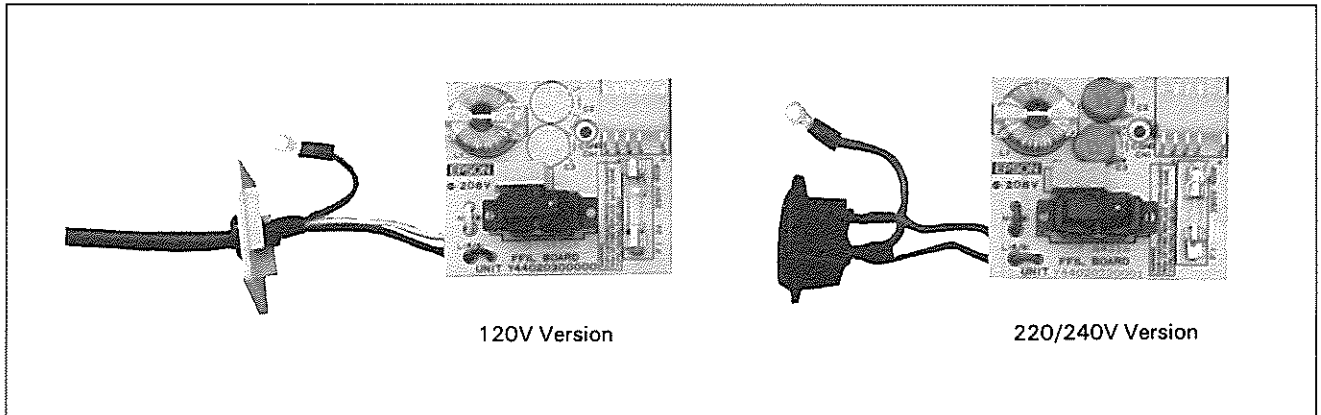

Fig. 2-15. Filter Circuit Components
2.6.1.1 Filter Circuit (Figs. 2-15 and 2-16)